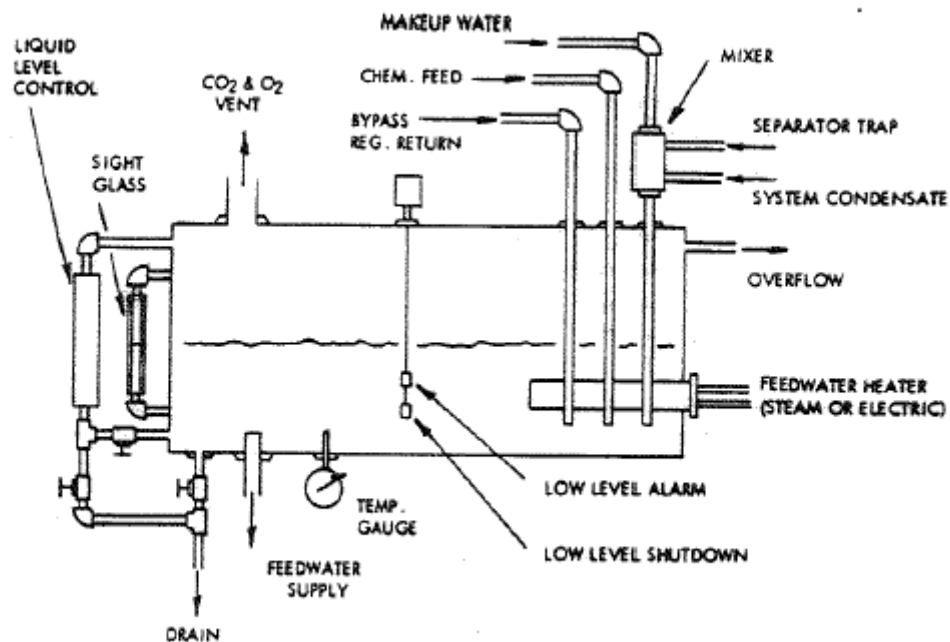
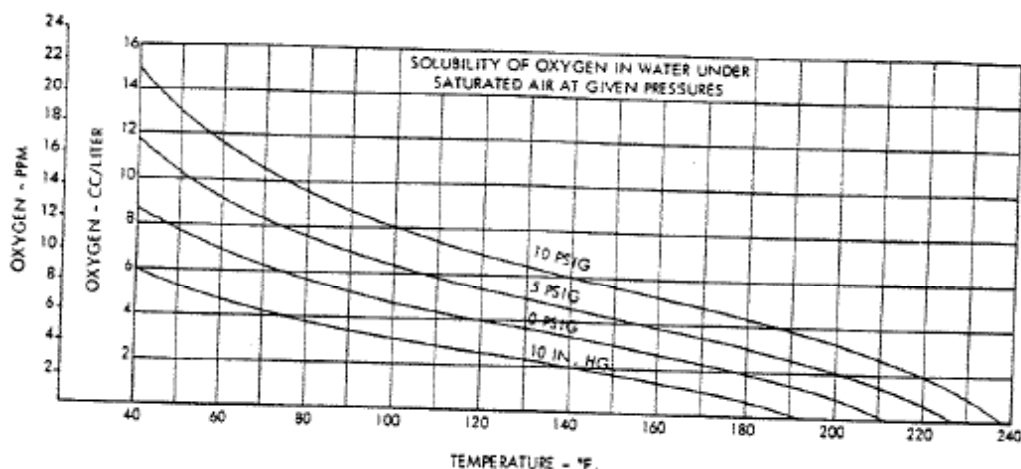

Figure 9, Recommended Feedwater Tank Design
Figure 10
9.4.3 The two gases, dissolved oxygen ( $O_2$ ) and dissolved carbon dioxide ( $CO_2$ ), must be eliminated from the feedwater. The best method of accomplishing this elimination is through a well designed deaerator. If this is impossible or impractical, a well designed feedwater tank or condensate receiver is the next best thing. It must heat the boiler feedwater to from 205°F to 210°F and be vented so that the  $O_2$  and  $CO_2$  can easily escape to the atmosphere. See Figure 9 for an acceptable feedwater tank design. Even at 205°F to 210°F, some  $O_2$  will remain in solution. (See Figure 10). This remaining  $O_2$  must be removed by using an oxygen scavenger such as catalyzed sodium sulfite or hydrazine. The  $O_2$  scavenger must be added to the feedwater tank at a point where it will intercept the new waters entering the tank. This is shown in Figure 9. It must have sufficient residence time (preferably in the tank) to react with any dissolved oxygen before it can do any damage to the tank, the piping, or the boiler. For this reason catalyzed sodium sulfite is preferred over uncatalyzed sodium sulfite or hydrazine. It reacts much faster than either of these. Catalyzed sodium sulfite contributes to total dissolved solids, creates sulfates with the oxygen, and cannot be used over 600 psi. These possible problems can be resolved by the water treatment company, Hydrazine does not contribute to TDS.